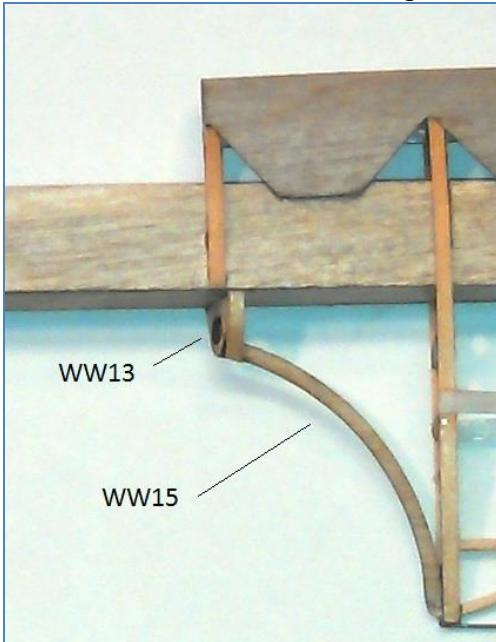

Figure 1.13 Middle Wing Root Detail
- The inboard notch in the trailing edge, WW15 is glued to the root and first rib as in Figure 1.13. This notch was to allow the pilot to see forward below the nose, essential in a dog-fight.